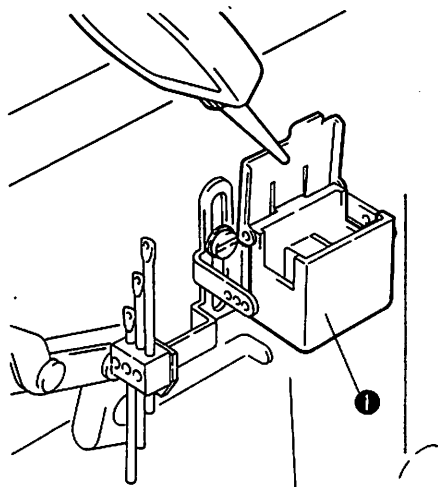

Fig.7
- (5) Refer to Fig. 7 and insert a new needle into the needle hole as far as it will go by using a pincette.
- (6) Tighten screw ③ by using allen key.
[6] To Fill Oil for HR Device (Fig.7~8)